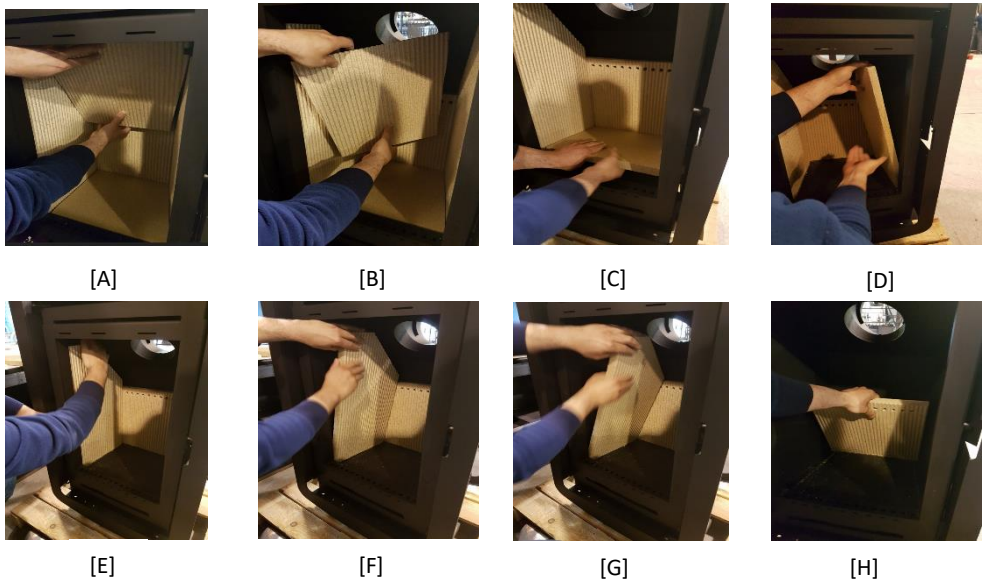

Figure 31 - Action sequence to remove the fume baffle
- 2 - Gently push up the baffle to release it from its lower support (the rear vermiculite plate) and upper brackets (steel rods). Once you release the plate, lift and pull it forward to create a proper gap between the baffle and the rear vermiculite plate (Figure 31 A).
- 3 - Using this gap, rotate the baffle plate sideways and downwards (Figure 31 B).
- 4 - Remove the baffle plate away from the unit (Figure 31 C).